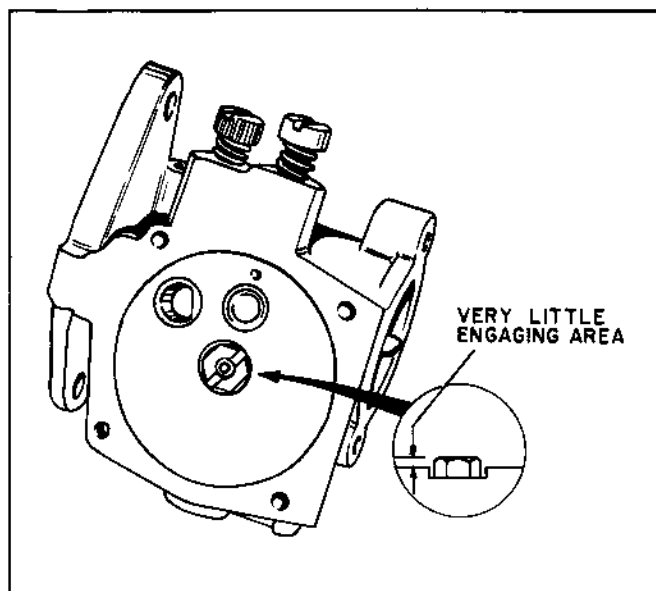

Figure 4-3. Tecumseh Carburetor
- (8) **INLET NEEDLE AND SEAT (Early Type).** Use slotted screw driver to remove. Figure 4-3. (Late Type) Use 9/32" socket to remove hex head inlet seat. Grind chamfer off socket for better grip. (Figure 4-3).